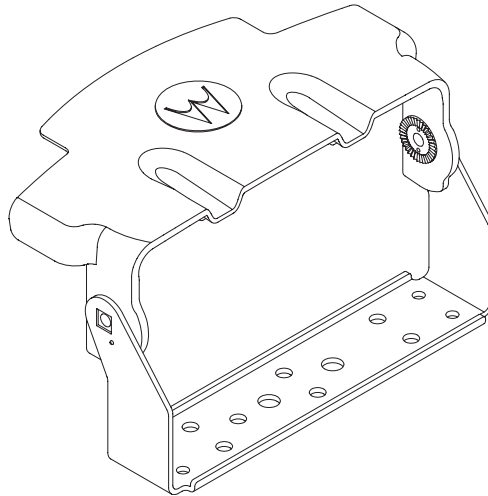

Figure 5-18. Remote Mount Trunnion with Sunshield
1. Assemble the sunshield to the remote mount trunnion as shown in Figure 5-18. The same process can be used for the motorcycle trunnion.